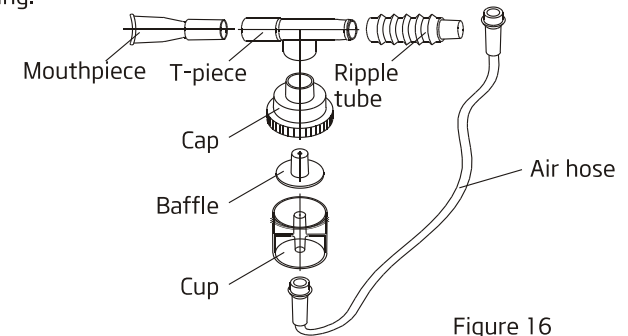

Figure 16
- Pull out the air hose, pull the mouthpiece, downward pull the nebulizing cup's cap, empty remained medicinal liquid in the nebulizing cup, then wash the air hose, mouthpiece, nebulizing cup's cap, nebulizing baffle, nebulizing cup, ripple tube, T-piece, etc , with pure water or immerge them in warm water for about 15 minutes(Figure 16). In order to wash them properly, you may add some vinegar in water.